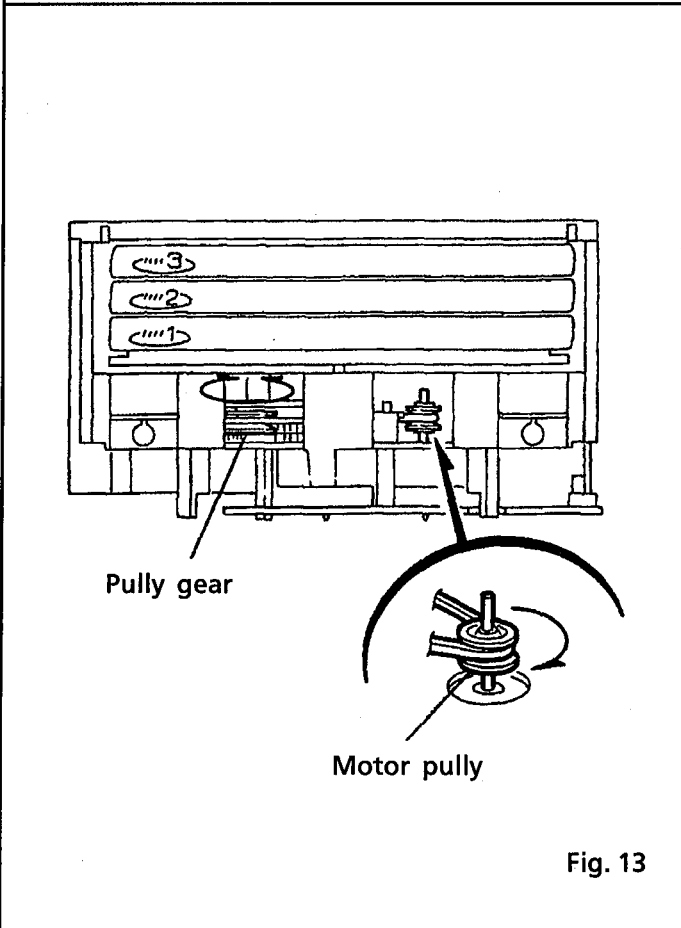
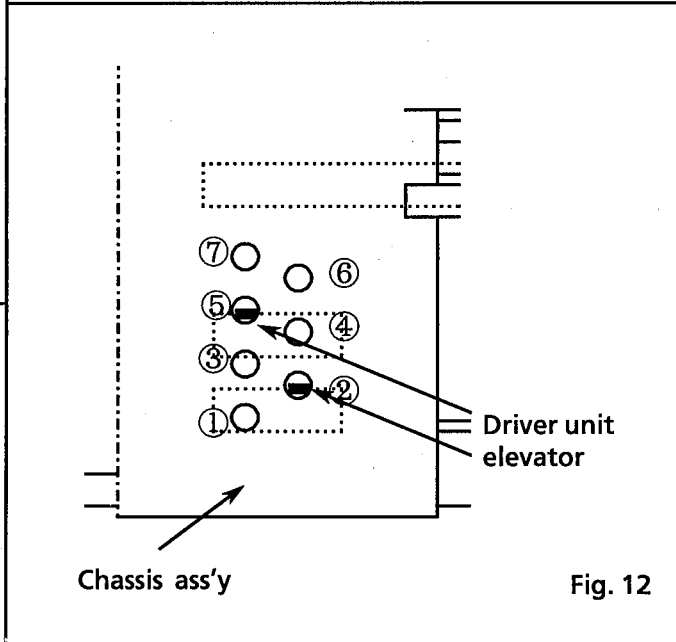

Fig. 13
Fig. 12
- [NOTE] Set the elevator in correct position (Fig. 12) by rotating the pulley gear with finger if it is not positioned correctly (Fig. 13.).
12. Rotate the motor pulley clockwise with finger until the lifter unit's stopper is lowered from ③ hole located on the CD tray ass'y. (See Fig. 13.)
14. Press 2 pawls (f, f') located rear side of the CD tray ass'y according to an arrow ⑥ to remove the CD tray ass'y. (See Fig. 12.)